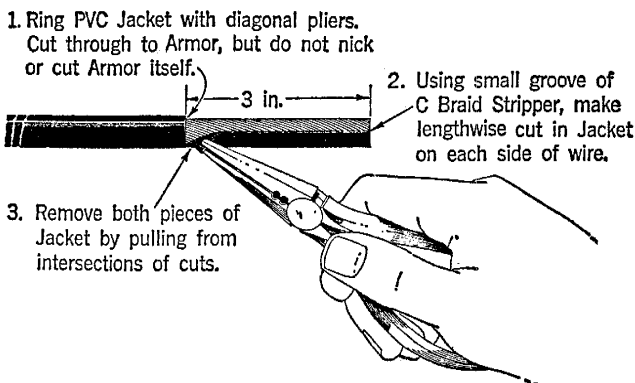
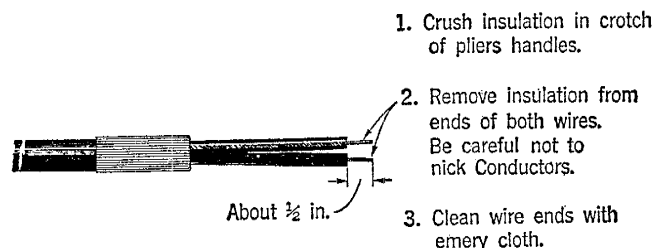

Fig. 1
Fig. 4
2.01 In preparation for splicing the conductors, remove the PVC jacket as shown in Fig. 1.
2.04 Remove the insulation from the ends of both wires as shown in Fig. 4.
2.05 Repeat the operations shown in Fig. 1 through Fig. 4 with the end of the other wire to be spliced.